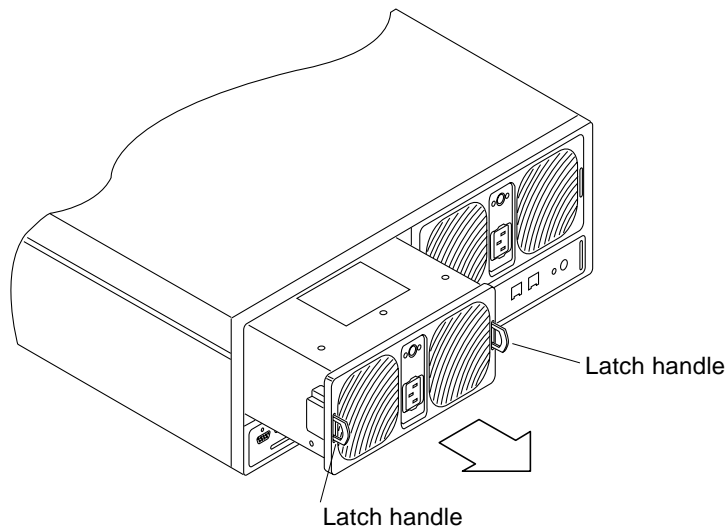

FIGURE 7-3 Removing the Power and Cooling Unit
5. Unlock the power and cooling unit by using a coin or small screwdriver to push in and release the two latch handles (FIGURE 7-3).